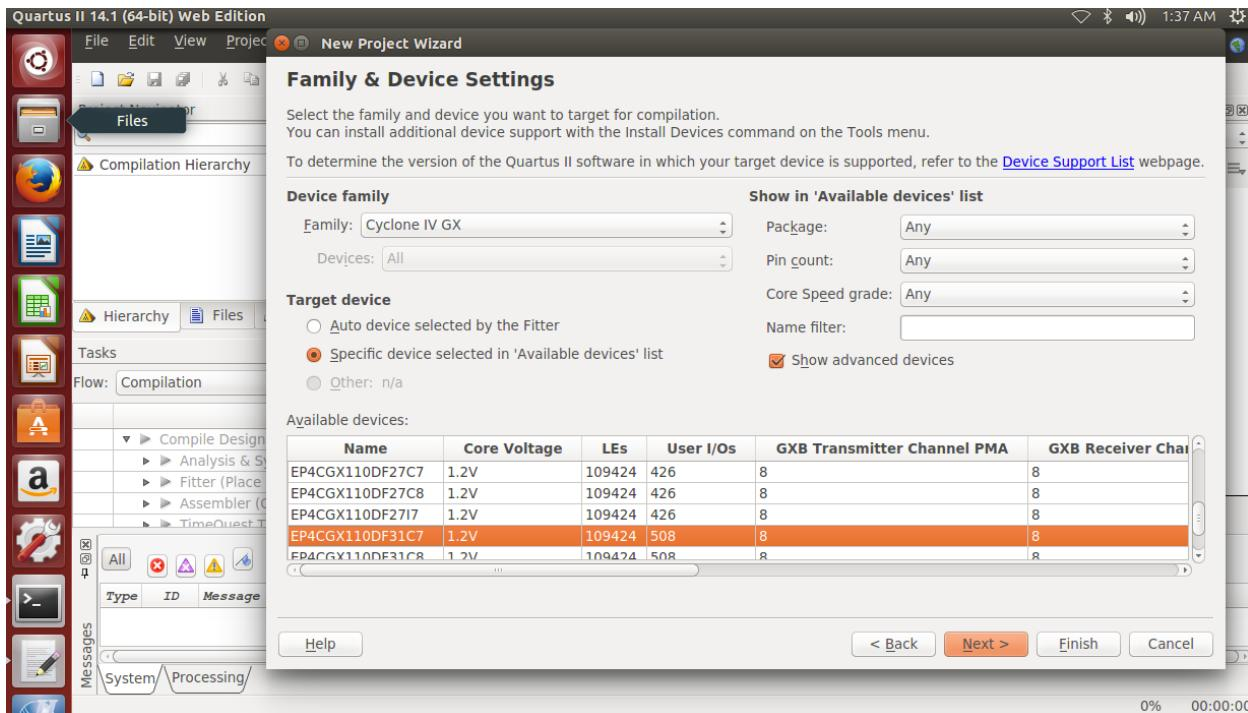

fig 3.1.4
7. Now you should select the FPGA for which you are developing a designing. Under **Target device** select option **Specific device selected in Available devices list** by which the list **Available devices** get activated from that list you select cyclone IV **EP4CGX110DF31C7** FPGA device. See fig 3.1.4